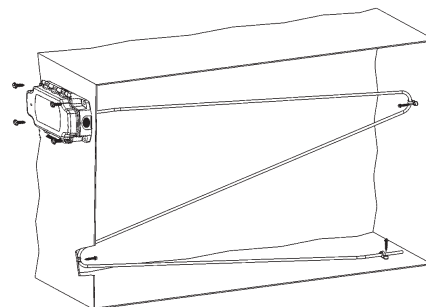

Fig. 4: Flexible Sensor Horizontal Mount (Best for Vertical Stratification)
1. Place the sensor in the middle or top of the duct as shown in Figs 4 & 5 and drill the probe and mounting holes as depicted for the enclosure being used.